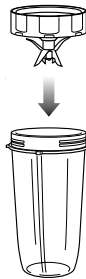

Fig. 2
- 4 Place the Pro Extractor Blades Assembly onto the cup and tightly screw it on clockwise until you have a good seal. (Fig. 2)